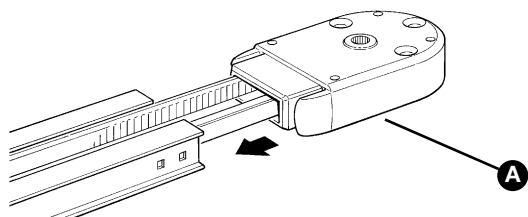

Figure 30
**4** Return the belt tensioner device and carriage to the initial position. Assemble the guide head section **[A]**, as shown in figure 30. This requires a certain force; if necessary use a rubber mallet.